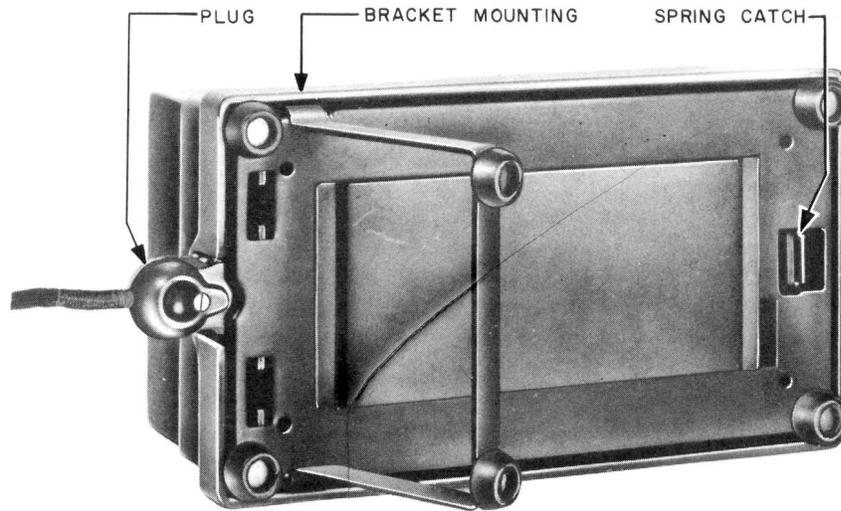

Fig. 3 - Baseplate
3.02 For access to discs, remove the baseplate by releasing the spring catch (see Fig. 3).